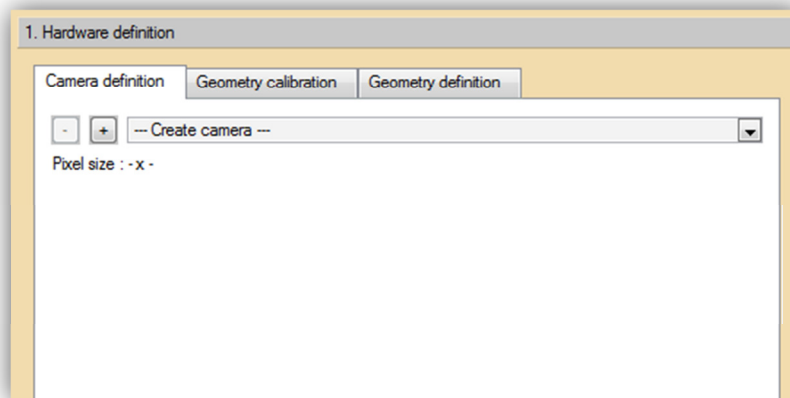

Figure 3.3: Camera definition tab
- When DigiR3D is used for the first time, the GUI asks you to create a camera (see figure 3.3).